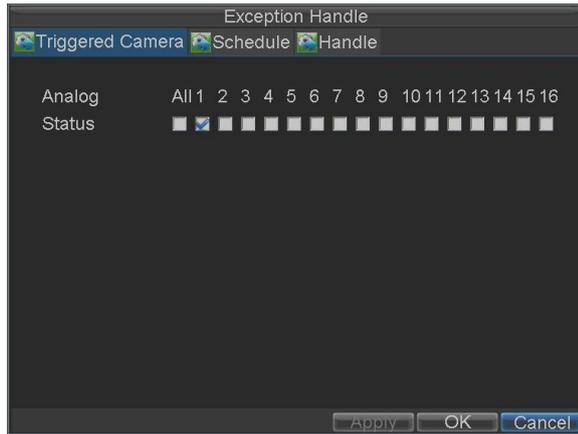

Figure 5. Triggered Camera Settings
8. Click the **Handle** button to enter the **Exception Handle** menu, shown in Figure 5.